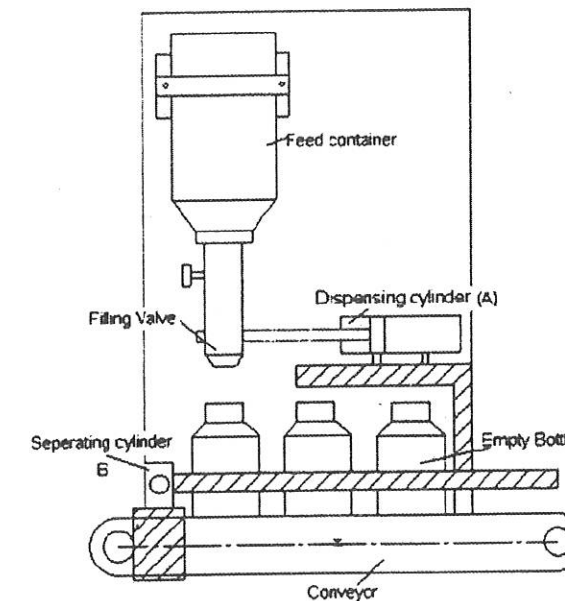

Figure 3
16. (a) An automated medicine filling station is shown in Figure 3. If a push-button is actuated, the dispensing cylinder-A extends, thereby opening the feed container and the bottle is filled with medicine. Then, it retracts, closing the feed container and the separating cylinder-B retracts and extends again immediately so that a new empty medicine bottle is located under the filling valve. Develop a ladder logic diagram for the above application.